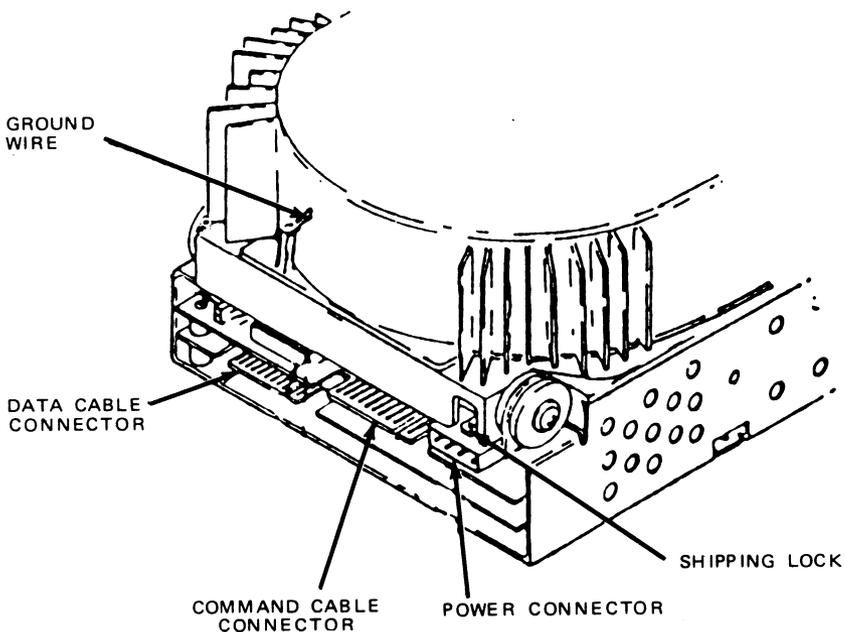

Figure 2
6. Connect the command and data cables to the disk drive as shown in Figure 2.
7. Connect the power cable and ground wire to the disk drive as shown in Figure 2.